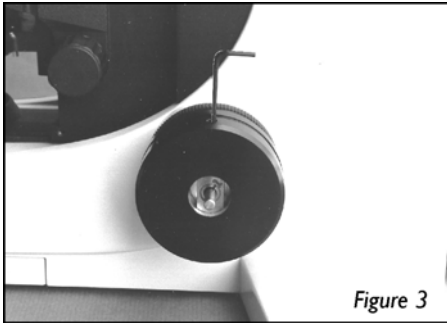

Figure 3
3. A black plastic cover should now be visible (see fig. 3). If this is not the case, check the introduction to ensure you removed the knobs from the correct side. **It is very important that you replace both coarse and fine knobs before removing the knobs on the opposite side.**
3. Fit the large adapter ring over the brass boss. Note that the orientation of the adapter ring should be such that the grub screw in the adapter ring screws down onto the centre of the radius (curved part of the brass boss) - (figure 3)